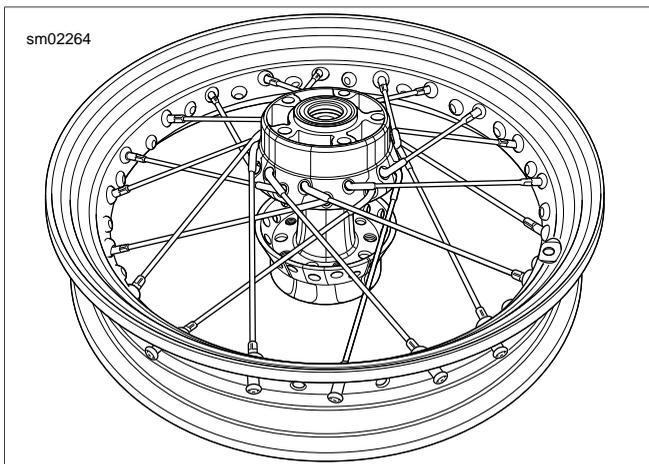

Figure 2-20. Brake Side Up: Top Row of Spokes Laced
- See Figure 2-20. Install remaining nine upper row spokes, one into every fourth remaining hole above rim centerline. This completes spoke installation on one side.